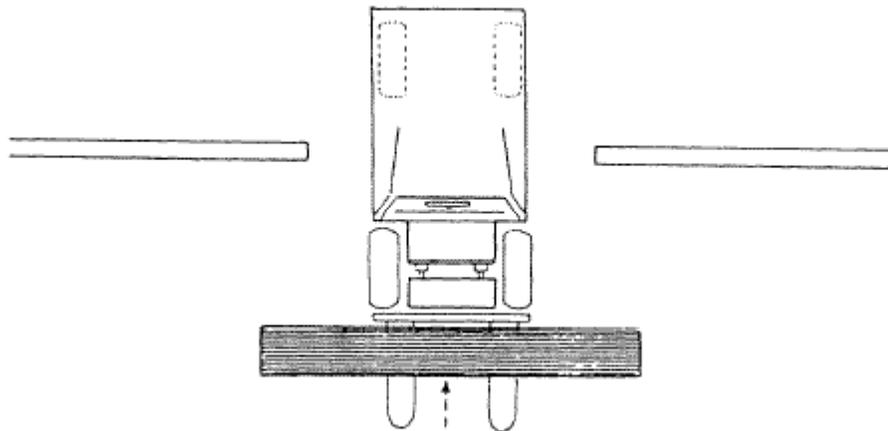
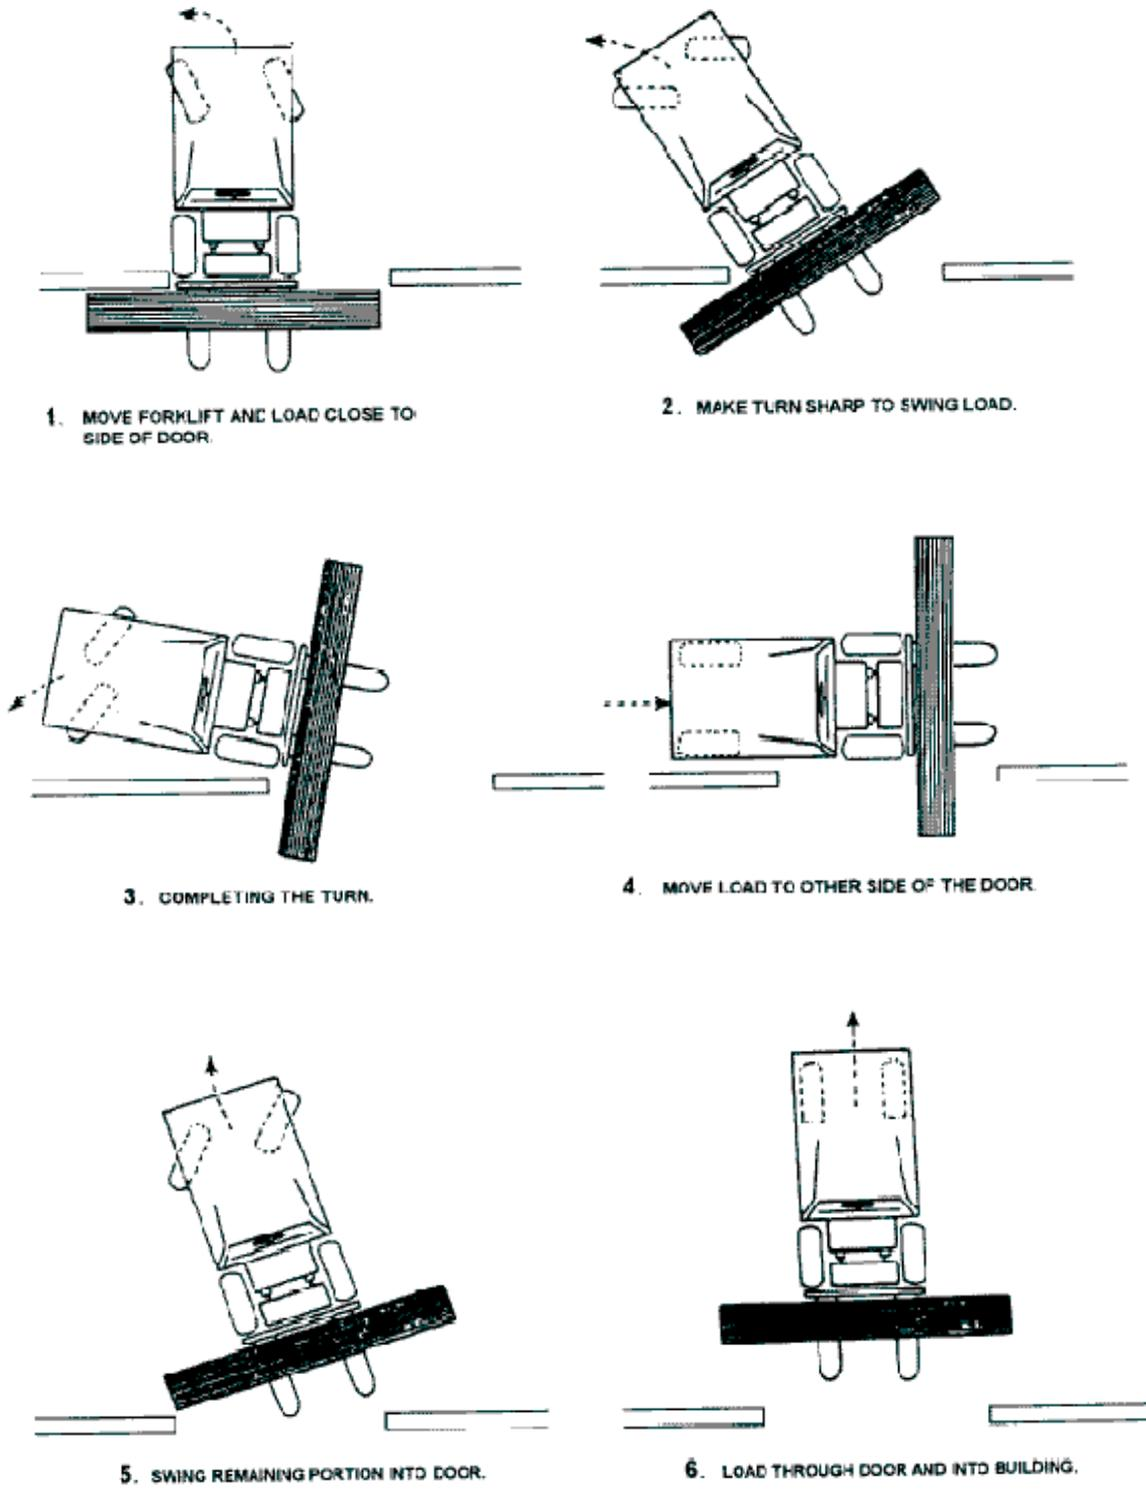

Fig. 12 Load Too Wide to Maneuver Through Entrance
Fig. 13 Technique to Maneuver Wide Load Through Entrance
**Carrying Long Objects:** As a forklift operator, you may be tasked to move lumber, steel, piling, or pipe. In order to accomplish this, you must know where the center of balance (C/B) is to move long loads. Moving long objects takes special forklift operator skills. If the load on the forklift is too wide for the entrance door, as in Fig. 12, it does not mean it won't fit. Follow the technique shown in Fig. 13 to see how this is done.